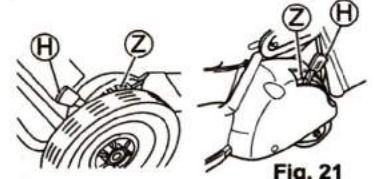

Fig. 21
2. Lean the mowing height adjustment lever (H) toward the wheel side, separating from the notches (dents) (Z). (See Figs. 21 and 22)